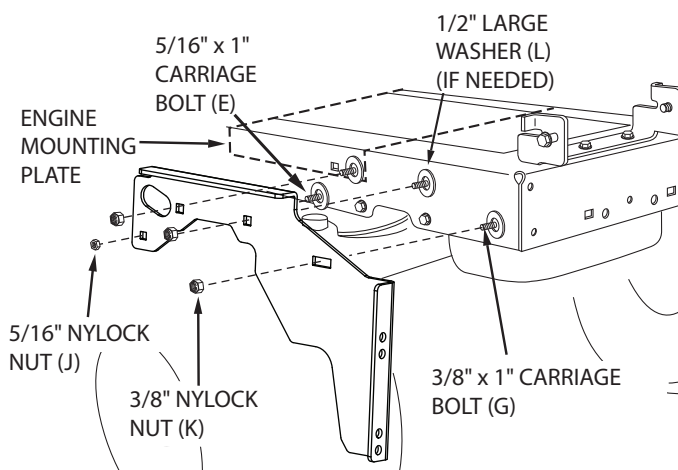

FIGURE 3a
If there is an engine mounting plate like the one drawn with dotted lines in figure 3a, use large 1/2" flat washers (L) as shims between the hanger bracket and the tractor frame in the locations shown in figure 3a. In the front three holes use three 3/8" x 1" carriage bolts (G), two large 1/2" washers (L) if needed, and three 3/8" nylock nuts (K). In the rear hole use a 5/16" x 1" carriage bolt (E), a large 1/2" washer (L) if needed, and a 5/16" nylock nut (J).